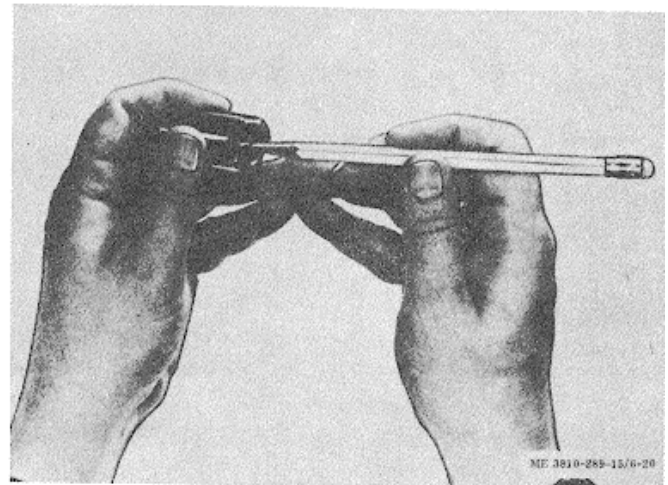
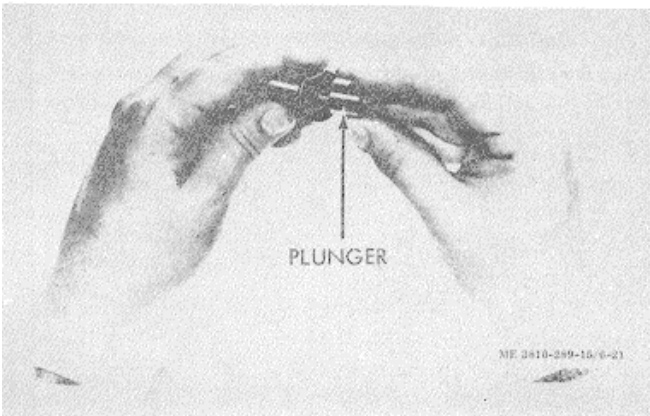

Figure 3-21. Washer being installed over plunger.
Figure 3-22. Governor plunger installation.
(4) Governor spring pack.
(a) Assemble screw into plunger guide, place small copper washer over screw point inside plunger guide, figure 3-21. Place small idle spring into plunger guide and place idle plunger (button) against spring in plunger guide (fig. 3-22). See table 2-2(5) for correct plunger to use. The plunger controls maximum fuel pressure produced by the fuel pump. All plungers with code number 170 or higher require adapter part number 144676.